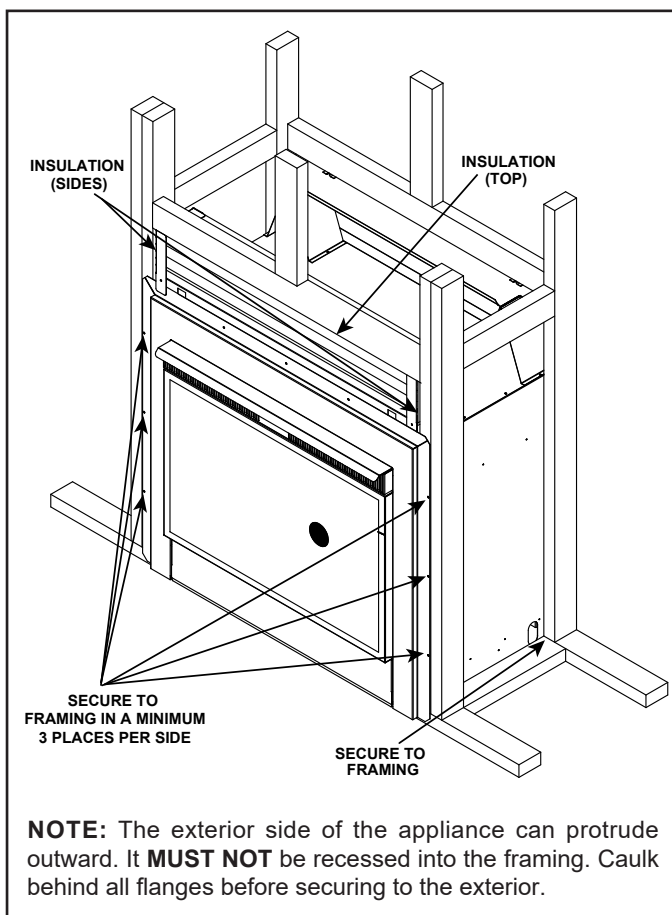

Figure 5.2 Proper Positioning, Leveling and Securing of an Appliance
- Place the insulation material on the top (two pieces) and sides (one piece per side) of the appliance, between the appliance and the framing studs. See Figure 5.2.
The diagram shows how to properly position, level, and secure the appliance (see Figure 5.2). Nailing tabs are provided to secure the appliance to the framing members.